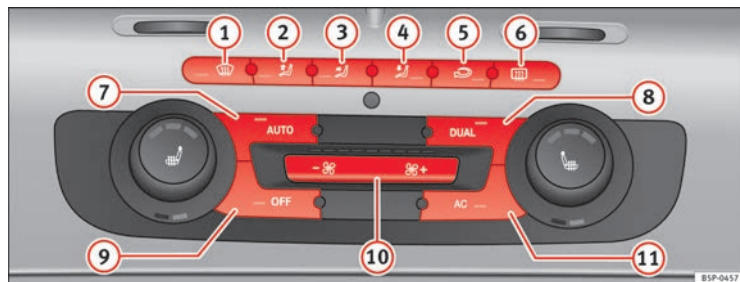

Fig. 135 On the dash panel: 2C Climatronic controls.
- To enter manual mode, press one of the buttons ⇒ fig. 135 ① to ⑤ or press the air flow control ⑩. The selected function is shown on the radio or navigator display.
- Press the button  ⇒ fig. 135  to switch air recirculation mode on or off. It is switched on if the following symbol appears in the display .